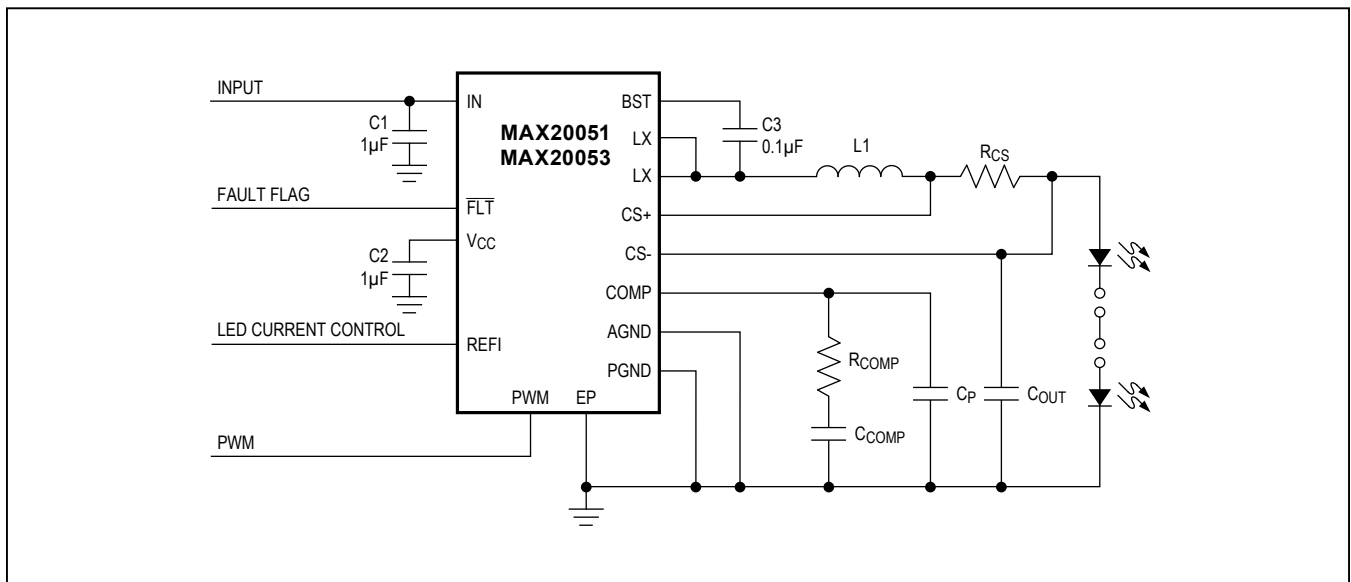

Figure 4. Typical Application Circuit Using the MAX20051
Normal sensing of the LED current should be done on the high side where the LED current-sense resistor is connected to the inductor. The other side of the LED current-sense resistor goes to the anode of the external LED string. The LED current is programmed using RCS (see Figure 4). When REFI is set to a voltage >1.3V, the internal reference regulates the voltage across RCS to 220mV. The current is given by:
The MAX20050/MAX20052 have internal loop compensation and there is no user-available adjustability of the loop compensation components. In the case of the MAX20051/MAX20053, an external COMP pin is present and an external compensation network is required for stable operation. See Figure 4 for the typical application circuit using the MAX20051.
- 1) Large switched currents flow in the IN and PGND pins and the input capacitor C1 of Figure 4. The loop formed by the input capacitor should be as small as possible by placing this capacitor as close as possible to the IN and PGND pins. The input capacitor, device, output inductor, and output capacitor should be placed on the same side of the PCB and the connections should be made on the same layer.